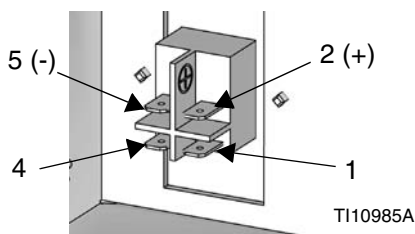
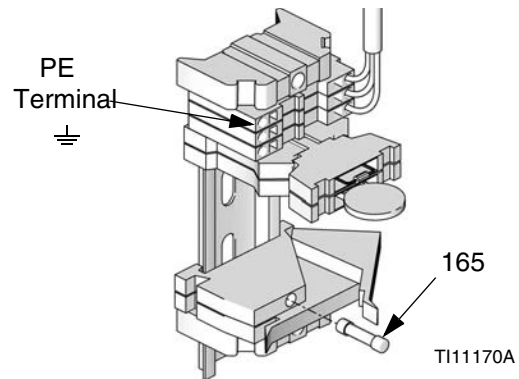

FIG. 36
FIG. 37
2. Mount 24 Vdc module (154) on mounting bracket (151).
3. Mount power switch (159) on mounting bracket (151).
4. Attach quick disconnects on cable from 24 Vdc module (154) to terminals on power switch (157).
5. Install power supply output cable to CAN cable (163).
6. Attach 24 V Class 2 power supply to terminals on the power switch: +24 Vdc to terminal 2 (+) and 24 Vdc return to terminal 5 (-). See FIG. 36. Attach protective earthing (PE) conductor to terminal marked  $\perp$ . See FIG. 37. The 24 Vdc power supply must be capable of supplying at least 1.0 Amp and have supply current protection rated at no more than 2.5 Amps.
7. Install cover plate (160), screws (156), and washers (164).